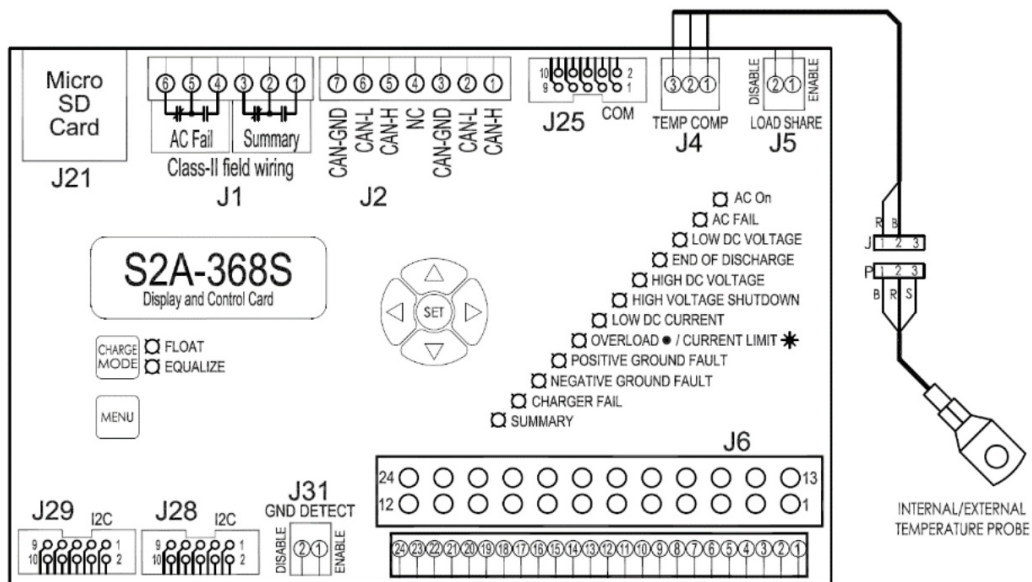

Figure 5 – External Temperature Compensation Connections (A77 Chargers Only)
2. Disconnect the internal probe on **J4** connector and install the external probe. Refer to Figure 5.